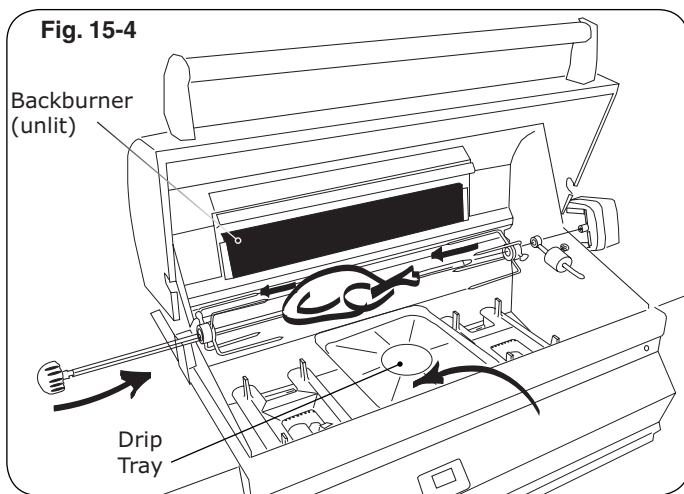

Fig. 15-4
4. Slide left meat holder into position on rod as shown in Fig. 15-4 and tighten screw.
5. Slide meat onto rod and into holder (Figs. 15-4, 15-7).
6. Slide right meat holder onto rod and into meat (Fig. 15-4). Tighten thumb screw.